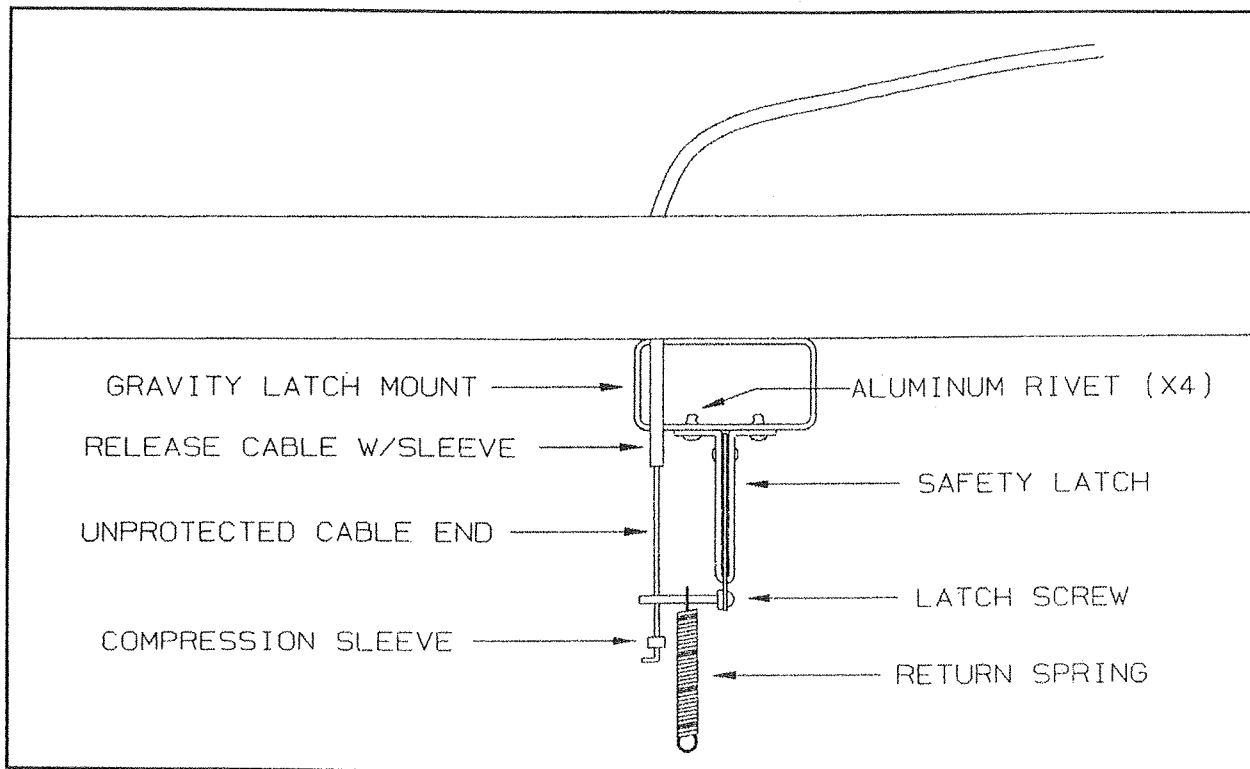

Figure 2
- With the top in the lowered position, locate the safety latch under the trailer and cut the unprotected cable end between the compression sleeve and the latch screw. See figure 2.
15. Guide the unprotected cable end through the pre-drilled hole in the latch screw. Refer to figure 2.
17. With the push/pull control assembly fully depressed, slide the compression sleeve against the latch screw. See figure 2. Using a pair of pliers, squeeze the compression sleeve tight. Place a 90° bend in the cable directly behind the compression sleeve.